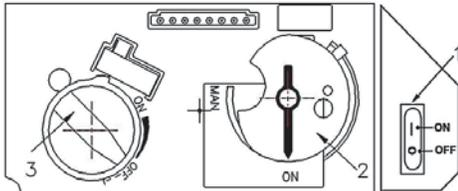
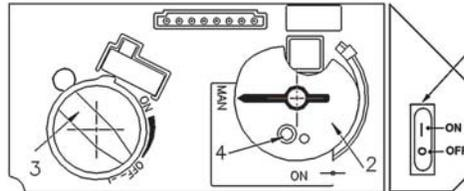
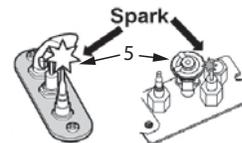

Fig 1
Fig 2
Fig 3
2. SET ON/OFF SWITCH (1) TO "OFF" POSITION.
- Wait five (5) minutes to clear out any gas, then smell for gas, including near the floor. If you smell gas, STOP! Follow "B" in the safety information above on this label. If you don't smell gas, go to the next step.
3. AUTOMATIC IGNITION (fig. 1): Locate the pilot (fig. 3), inside of firebox at Left Hand side.
- ON/OFF switch (1) in ON position, MAN-knob (2) in ON position; set Flame Adjustment knob (3) to lowest setting (C);
- When the pilot is lit, the Flame Adjustment knob (3) will automatically rotate to the highest setting.
4. MANUAL IGNITION (fig. 2): With the window off, locate the pilot (fig. 3) inside of firebox at Left Hand side;
- ON/OFF switch (1) in ON position, MAN-knob (2) in MAN position;
- Set Flame Adjustment knob (3) to the lowest setting (C);
- Push down the metallic core (4) with a pen or similar instrument; this will establish the pilot gas flow;
- Light gas at the pilot (5) with a match;
- Continue holding down metal core (4) for about 10 seconds; after release, pilot should remain lit;
- If the pilot will not stay lit after several tries, turn the gas control knob (3) to "OFF" (C) and call your local service technician or gas supplier.